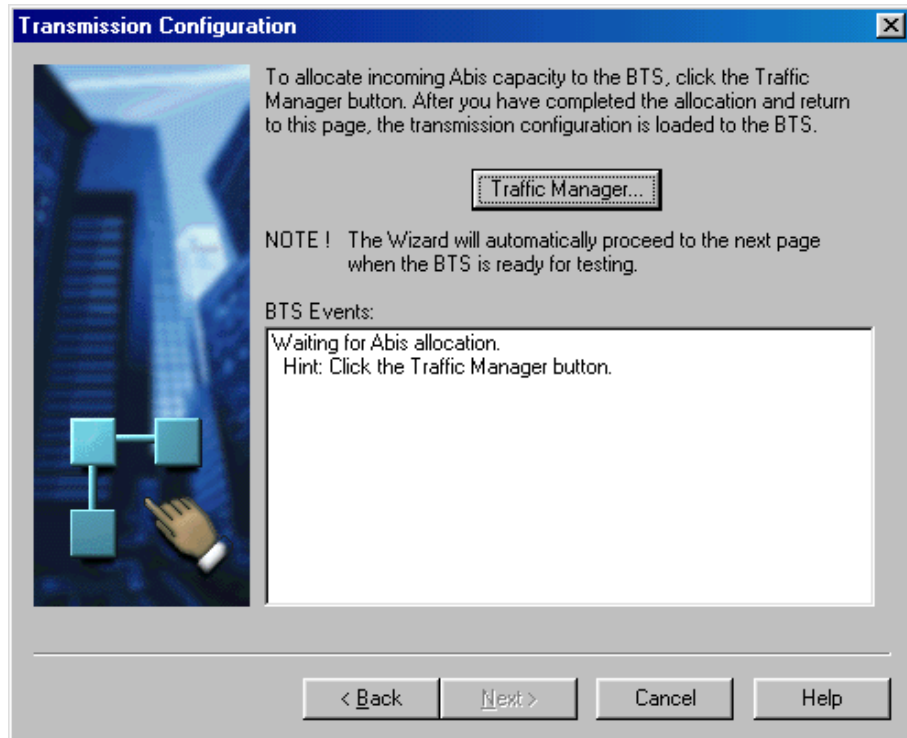

Figure 7. Opening Traffic Manager from Commissioning Wizard
6. To allocate incoming Abis capacity to the BTS, click the TRAFFIC MANAGER button in the *Transmission Configuration* window (see Figure 7) to open . For information on how to allocate the transmission capacity, see Chapter 6.